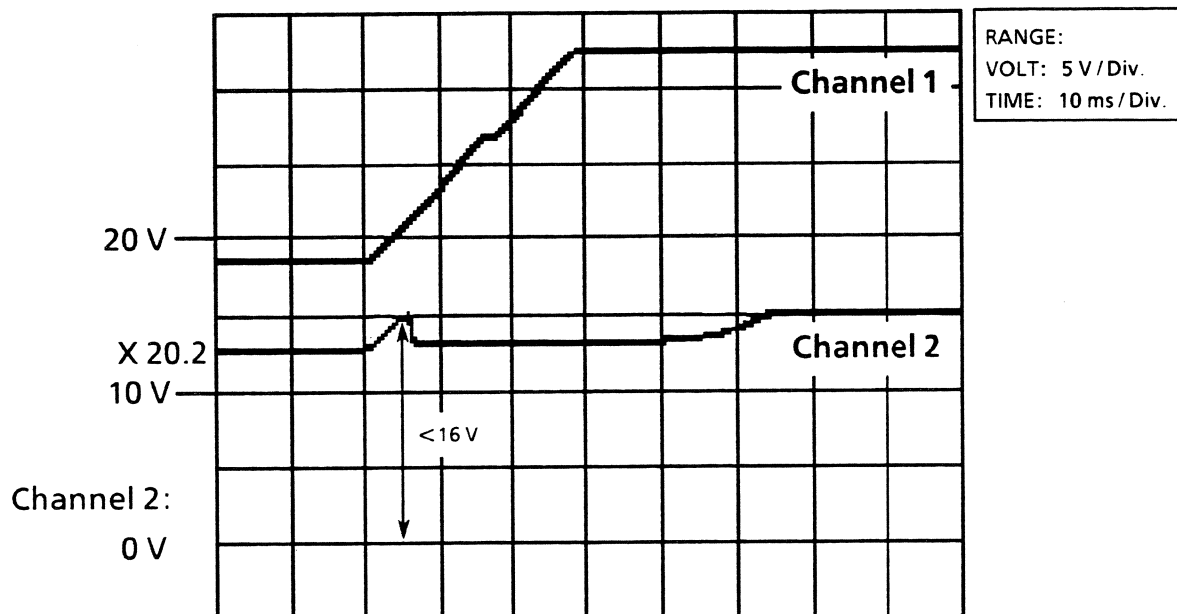

Fig. 7-20 Voltage at X20.2 with switchover from accumulator to mains operation
- ▶ Check of the voltage characteristic at X20.2 on the oscilloscope (fig. 7-20):